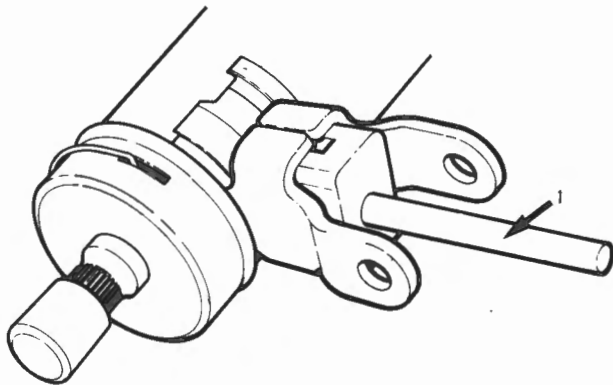

Fig. L-5
- 5 Hold the gear lever up against spring pressure and insert tool 18GA071 between the two gear levers at the bottom of the upper steering column straddling the bridge piece. Fig. L-5.